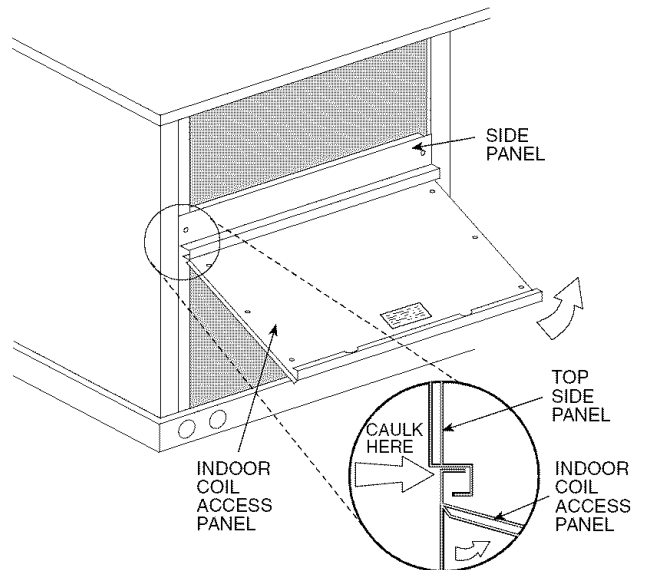

Fig. 29 — Indoor Coil Access Panel Relocation
3. The indoor coil access panel will be used as the top of the hood. Remove the screws along the sides and bottom of the indoor coil access panel. See Fig. 29.
8. Caulk the ends of the joint between the unit top panel and the hood top. See Fig. 29.